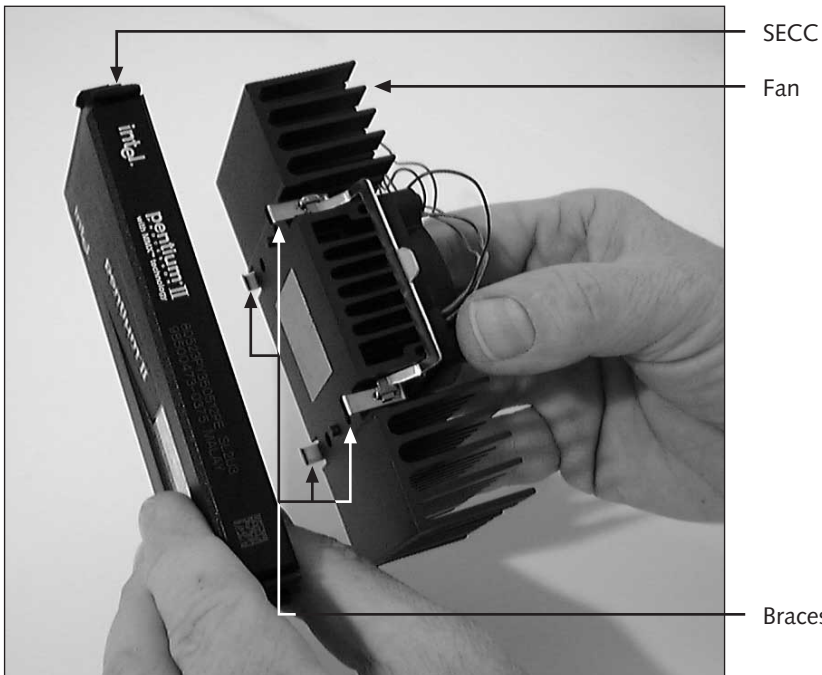

Figure 15-7 The braces on the fan align with holes in the side of the SECC
- Examine the fan and processor to see how the fan brace lines up with holes in the side of the SECC (see Figure 15-7). Place the fan directly on the side of the SECC. The two should fit tightly together, with absolutely no space between them.